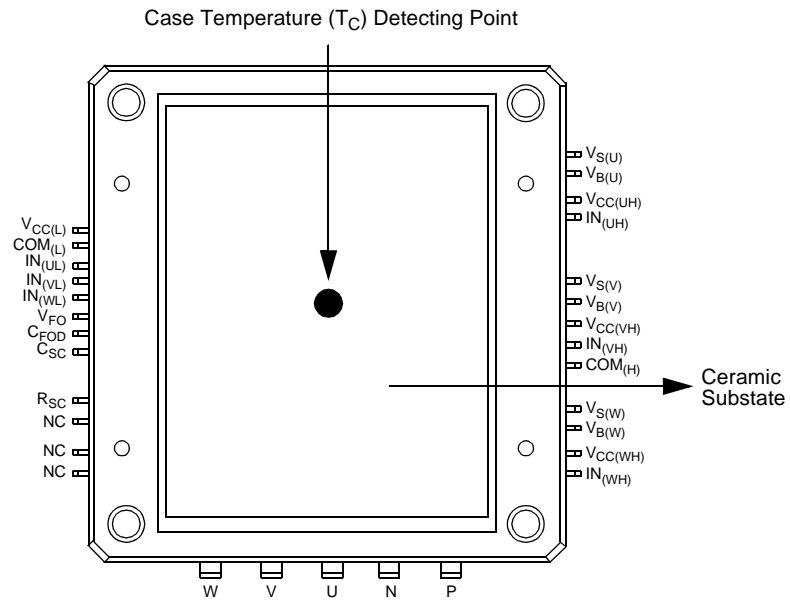

Fig. 4. T_c Measurement Point
2. For the measurement point of case temperature (T_c), please refer to Fig. 4.